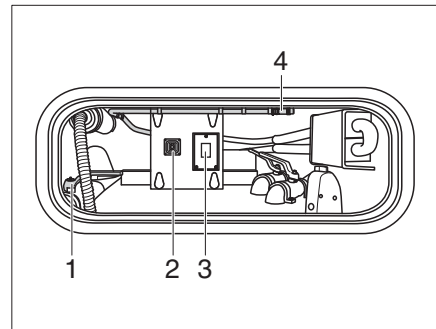

Fig. 303 Flushing the cassette of the macerator toilet (view in the storage box)
- Open the drain cock (Fig. 303,1).
- Press the switch (Fig. 303,3).
- Operate switch (Fig. 303,2) for the drainage pump.
- Remove the hose for tank cleaning (Fig. 303,4) in the storage box and connect it to a water connection.
- Remove the water connection after flushing and store the hose for tank cleaning (Fig. 303,4).
- Close the drain cock (Fig. 303,1).